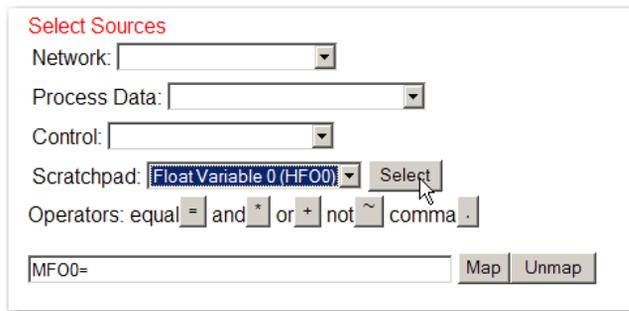

FIG. 239 SELECTING FLOAT VARIABLE 0/WORD 0
- Keep the default word 0. (See Fig. 239)